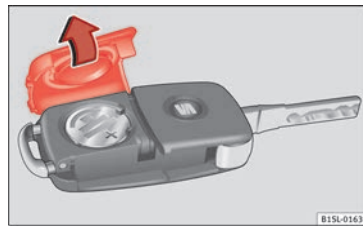

Fig. 99 Vehicle key: battery compartment cover
- Remove the cover from the back of the vehicle key » Fig. 99 in the direction of the arrow » ❶.
- Fit the battery compartment cover, pressing in the direction of the arrow as shown » Fig. 99 until it clicks into place.
❶ CAUTION